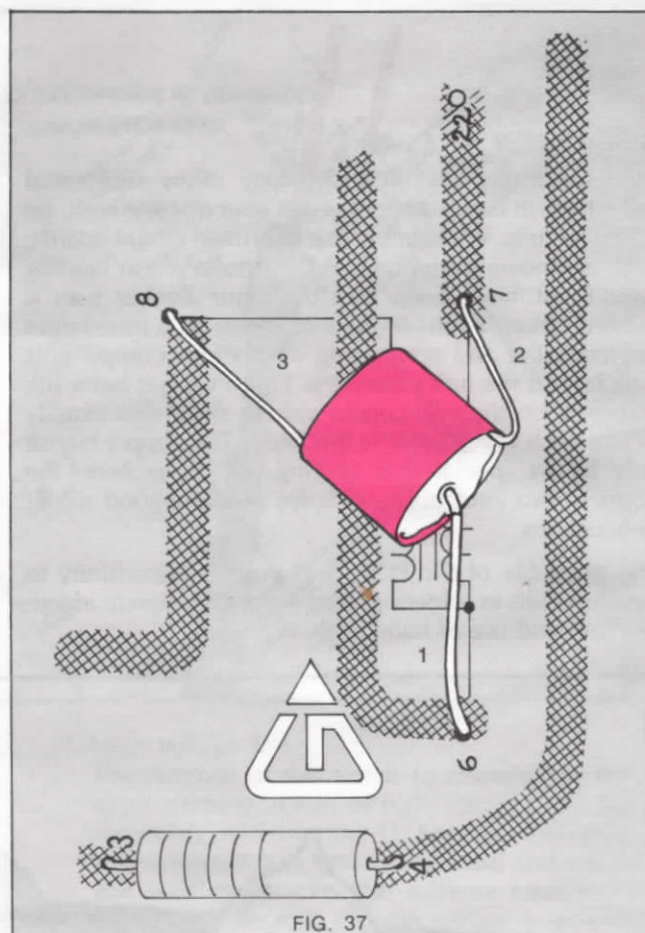

FIG. 37
3. Insert the leads of the trigger transformer T1 through holes 6, 7, and 8 as follows: (Refer to Figure 37.)